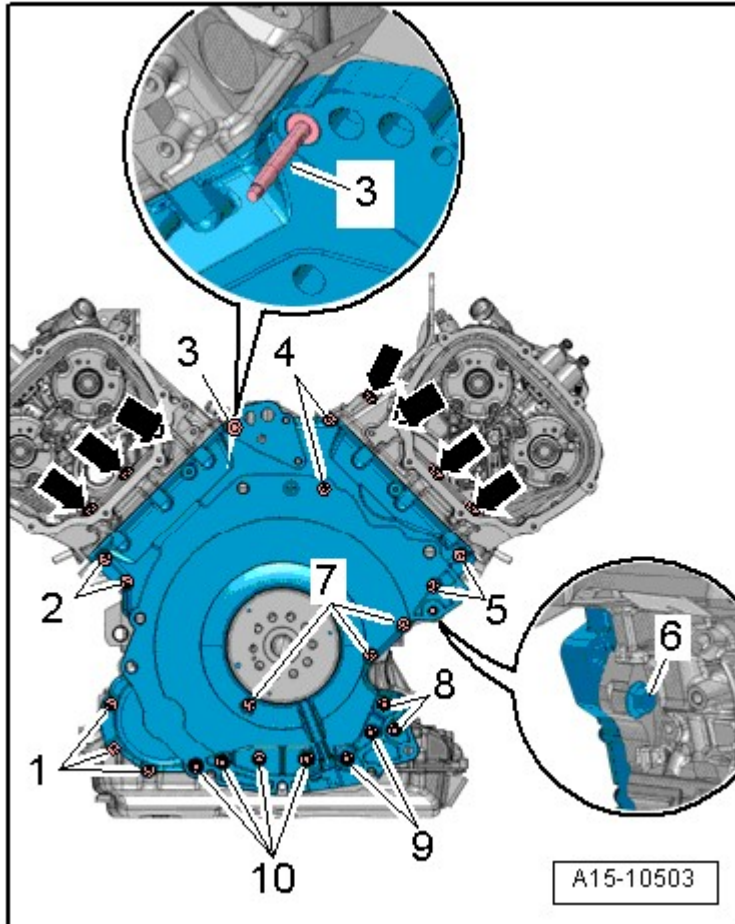

Fig. 14: Identifying Lower Timing Chain Cover Bolt, Tightening Sequence
- Tightening specification and sequence, refer to **Fig. 14**